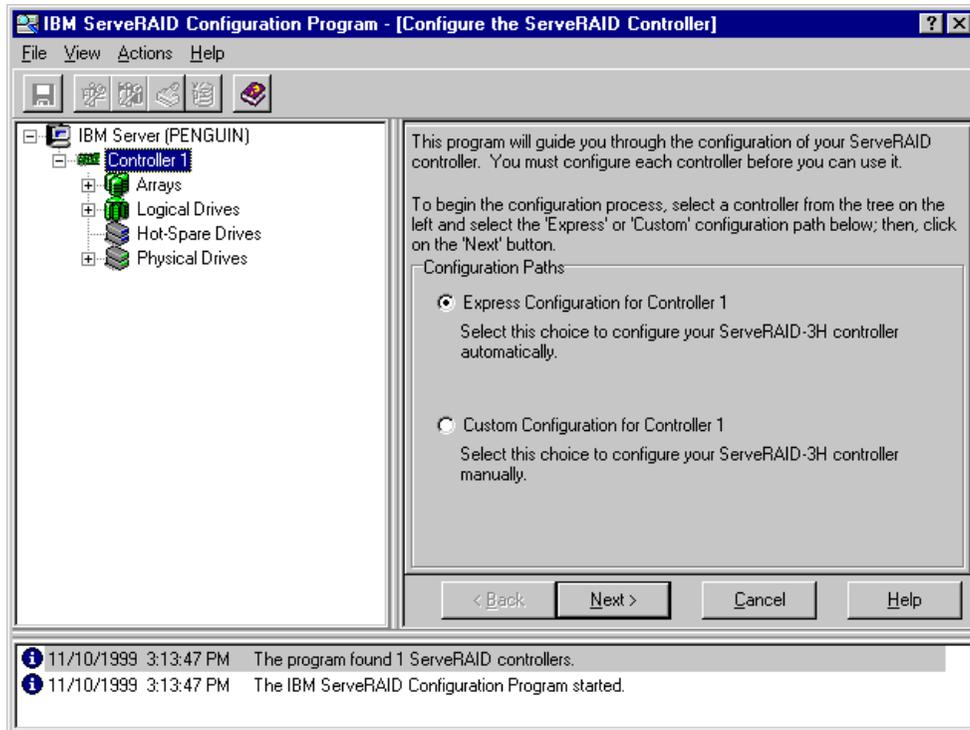

Figure 47. The ServeRAID Configuration Program
2. Once the update is complete (if it was required), the configuration program starts, allowing you to define arrays, logical drives, and hot spares as shown in Figure 47:
The simplest way to configure the ServeRAID adapter is to use the Express Configuration option as shown in Figure 47. This option will configure your arrays based on the number of drives you have installed.